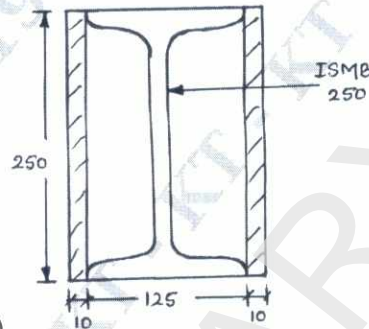

Fig.Q5(c)
- c. A built up column consists of ISMB 250@ 366N/m with two side plates 250mm \times 10mm as shown in Fig.Q5(c). Compute the maximum compressive load that the column can carry, if the length of the column is 6.25m ends of columns are restrained in position at both the ends, and one end is restrained against rotation. (08 Marks)